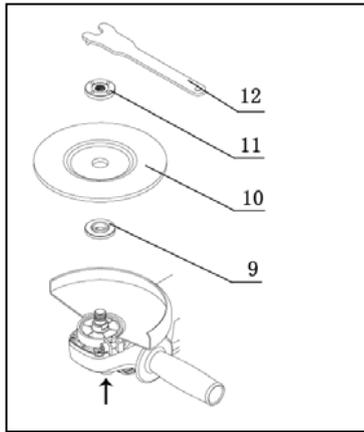
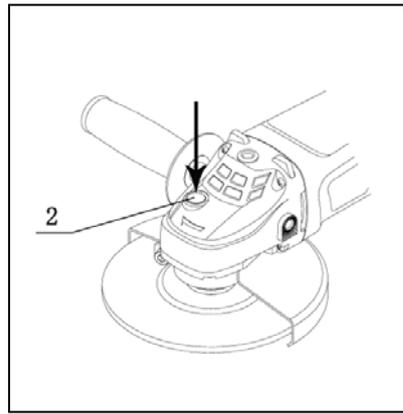

Figure 3
Figure 4
- 3) Fitting the grinding disc: (Figure 3 and Figure 4)
- A. Place the inner flange (9) over the spindle making sure the fit is tight.
- B. Place the grinding disc (10) on the top of the inner flange ensuring the bore fits into the step of the flange.
- C. Mount the concave recess side of the outer flange (11) over the spindle.
- D. Press the spindle locking button (2) firmly and verify that there is no movement in the spindle. While the spindle lock is depressed, tighten the outer flange in a clockwise direction using the spanner (12) (See figure 4).